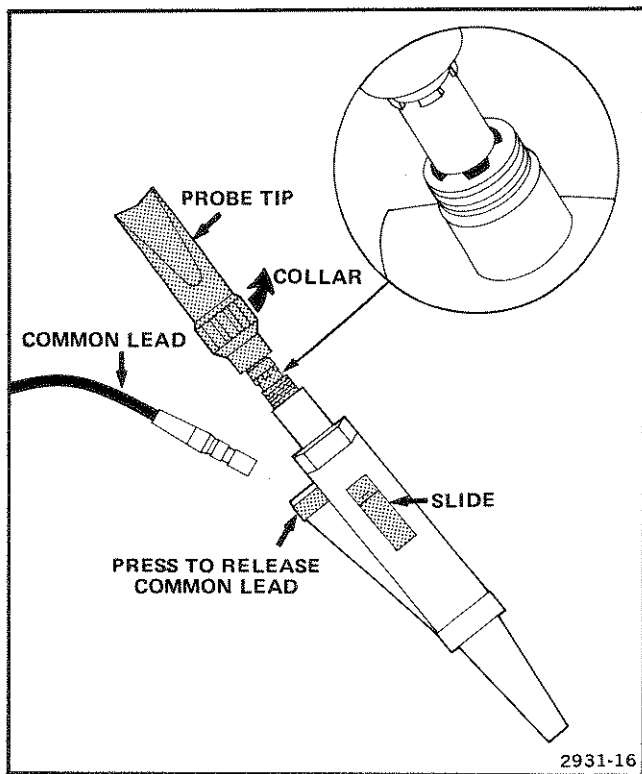

Figure 3-3. Setting the 1500-V probe tip angle and replacing the common lead.
The angle of the 1500-V probe tip may be rotated in 90° increments, if necessary, to make it easier to attach the probe to the circuit under test. To change the probe tip angle, refer to Figure 3-3 and perform the following steps:
To replace the common lead on the 1500-V Probe, press and hold the release point shown in Figure 3-3. Pull the lead out of the probe body and remove pressure from the release point. Install the new common lead by pushing the lead end into the probe body until an audible click is heard.
6. Move the slide forward to the position shown in Figure 3-3 and verify that there is approximately one-eighth inch clearance between the indexing guides on the shaft of the probe tip and the threaded portion of the probe body. If necessary, loosen the probe tip to achieve the correct clearance.